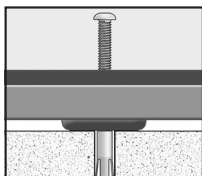

Figure 6
6. Insert the supplied Button Head Bolt through the bolt-hole from the inside of the safe and into the Drop-in Anchor (Figure 6).